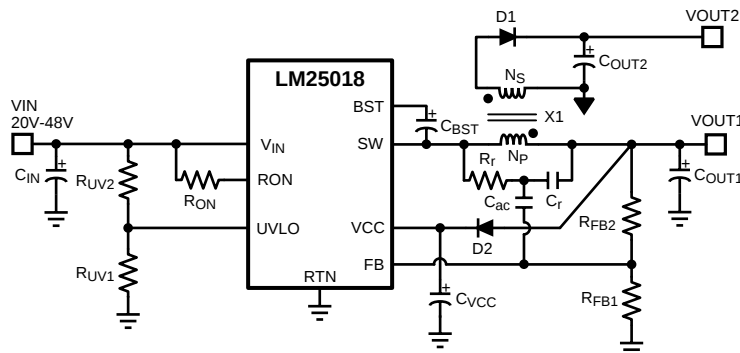

Figure 17. Typical Isolated Application Schematic
An isolated supply using LM25018 is shown in Figure 17. Inductor (L) in a typical buck circuit is replaced with a coupled inductor (X1). A diode (D1) is used to rectify the voltage on a secondary output. The nominal voltage at the secondary output (V_{OUT2}) is given by:
A soft-start feature can be implemented to the LM25018 using an external circuit. As shown in Figure 17, the soft-start circuit consists of one capacitor, C_1 , two resistors, R_1 and R_2 , and a diode, D. During the initial start-up, the VCC voltage is established prior to the V_{OUT} voltage. D is thereby forward biased and the FB voltage is pulled up above the reference voltage (1.225 V). The switcher is disabled. With the charging of the capacitor C_1 , the voltage at node B gradually decreases. Due to the action of the control circuit, V_{OUT} will gradually rise to maintain the FB voltage at the reference voltage. Once the voltage at node B is lower than the FB voltage, plus the voltage drop of D, the soft-start is finished and D is reverse biased.